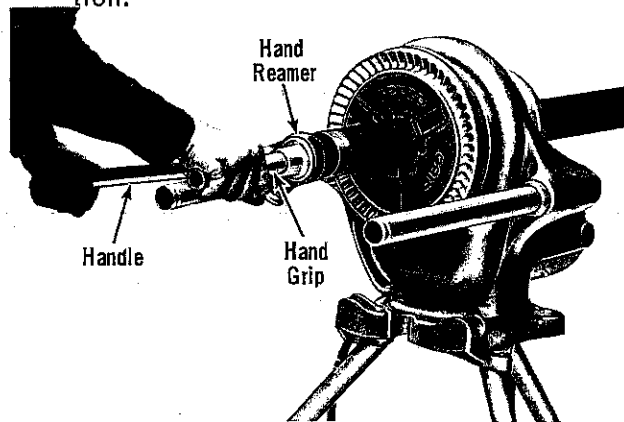

Figure 7. Reaming Pipe with Hand Reamer.
2. Insert Straight Flute Reamer into end of pipe and hold firmly onto Handle and Handgrip (Fig. 7).
3. Step on Foot Switch and push on Reamer Handgrip (Fig. 7) with right hand to ream pipe.